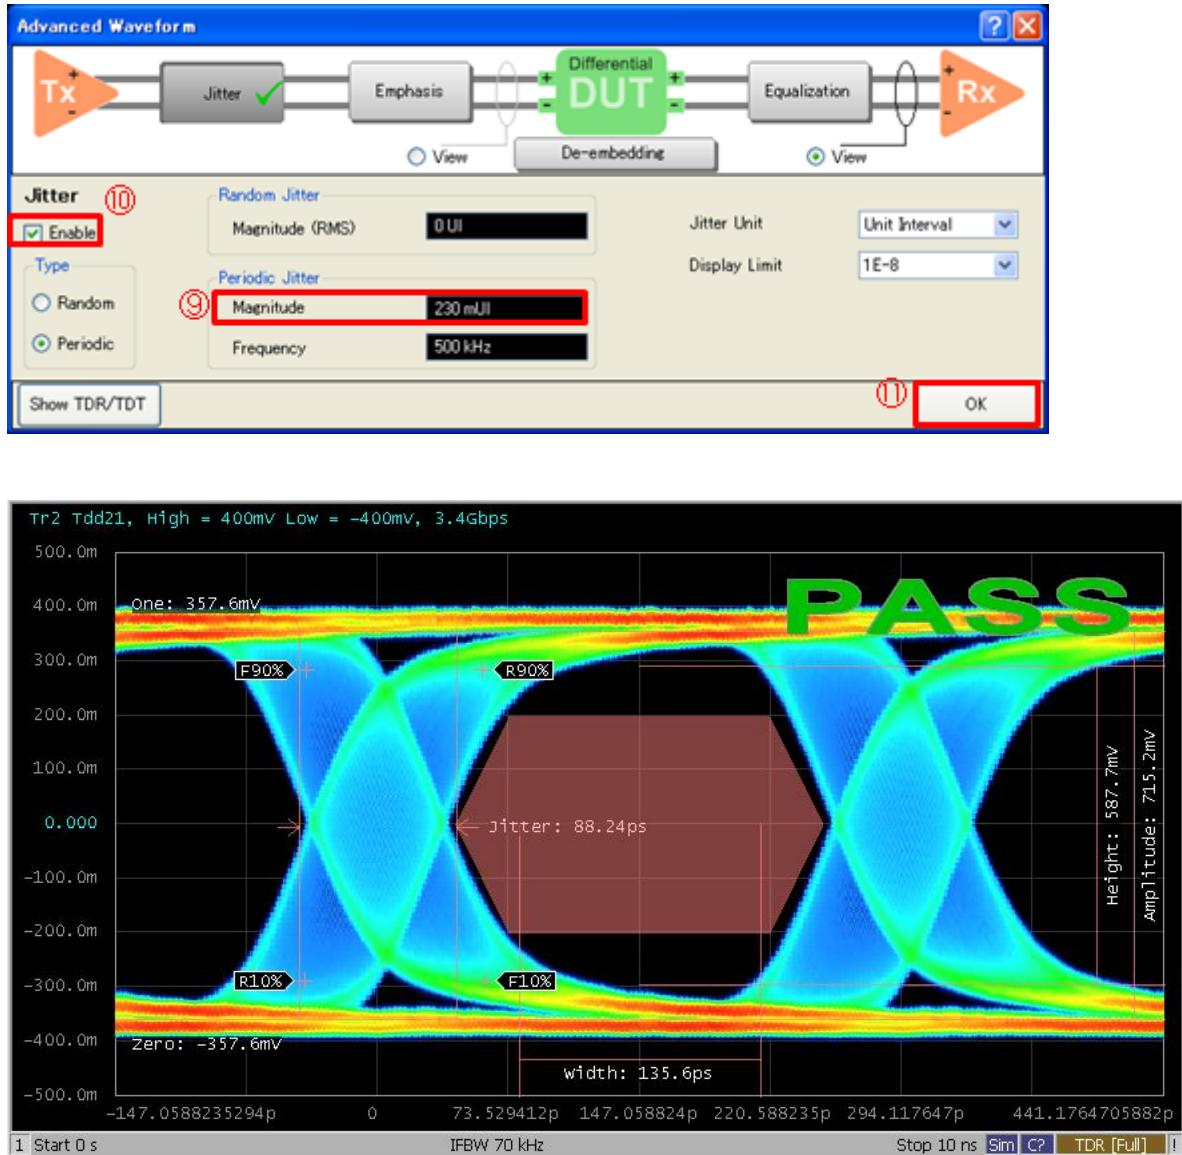

Figure 5-5 The eye diagram of cable input signal with adjusted jitter.
8. Select **Trace2** (item7).
9. Click **Advanced Waveform** (item8), then a dialog box appears.
10. Adjust **Magnitude** value (item9) and activate **Enable** checkbox (item10).
11. Click **OK** (item11) to close the dialog box.
12. Click **Draw Eye** (item12).
13. Repeat the previous three steps while adjusting the jitter magnitude until the edge of the eye nearly touches both the left-most and right-most points of the eye mask but without causing the eye mask violation (Figure 5-5).